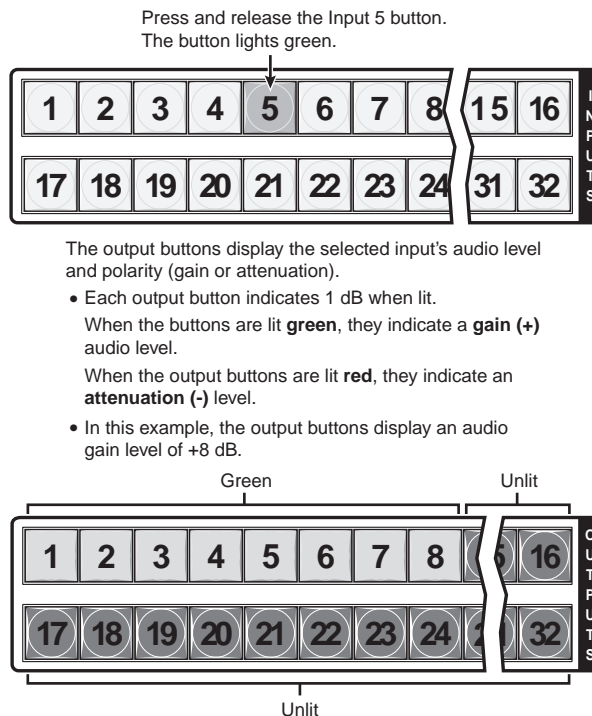
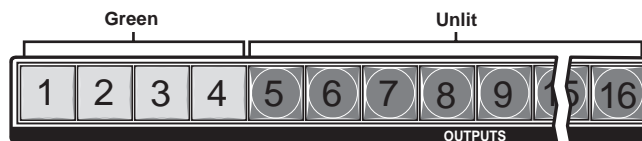
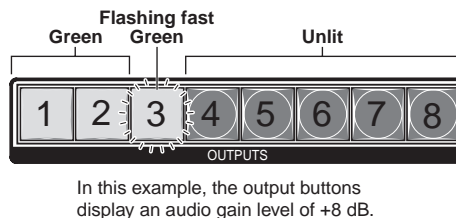

Figure 3-59 — Select an input
Figure 3-60 — Level display on a 16-output-button switcher
Figure 3-61 — Level display on a 8-output-button switcher
3. Press and release the input 5 button (figure 3-59).
Figure 3-60 shows the same level (+8 dB) as in figure 3-59, but displayed on a 16-output-button switcher, such as a CrossPoint 450 Plus 816 HVA.
Figure 3-61 shows the same level (+8 dB) as in figure 3-59, but displayed on an 8-output-button switcher, such as a MAV Plus 84 HDA.